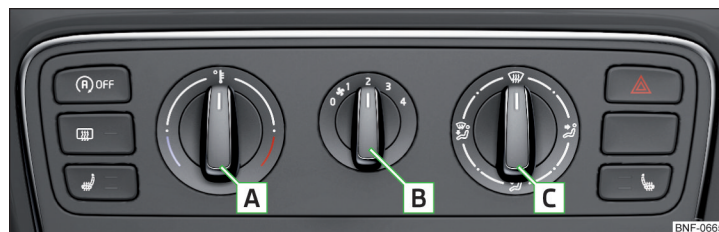
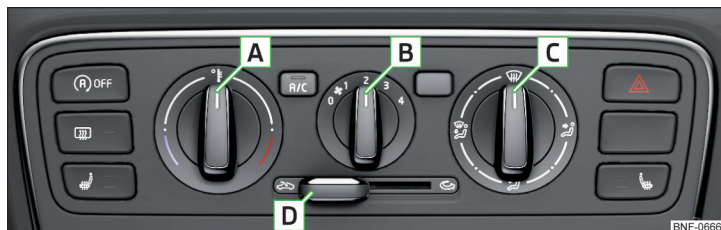

Fig. 83 Heating Controls
Fig. 84 Controls of the air conditioning
Functions of the individual controls » Fig. 83 and » Fig. 84
▶ To **turn on** the air recirculation, move the slider into position **D** » Fig. 84 on page 70.